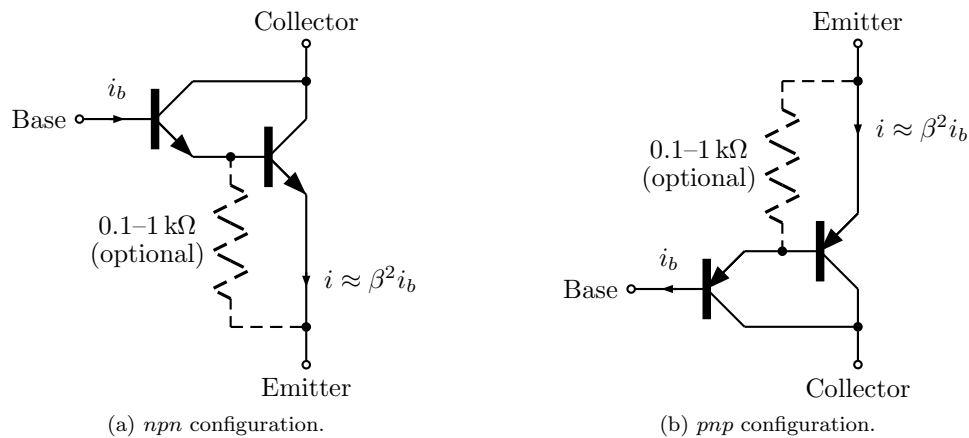

Figure 4.7: Darlington transistor pairs. *Optional* small resistor increases bandwidth.
**The Darlington Pair:** Consider the *Darlington*15 transistor pairs shown in Figure 4.7.
In Figure 4.7(a) the leftmost transistor drives current into the base of the rightmost transistor. Therefore, the current gains of the two transistors multiply. The pair of transistors combine to make a device that is nearly identical to a single *npn* transistor except that the current gain is  $\beta^2$  instead of  $\beta$ . In other words,
- the device in Figure 4.7(a) acts like a “big” *npn* transistor, and
- the device in Figure 4.7(b) acts like a “big” *pnp* transistor.